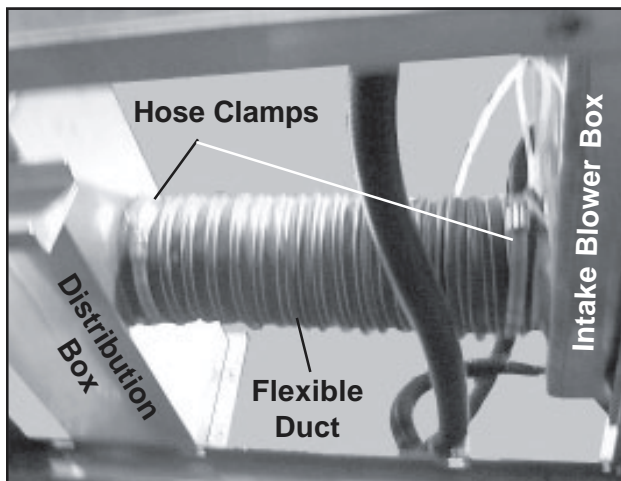

Figure 91. Intake Flexible Duct
7. Loosen the hose clamp on the distribution box end of the intake flexible duct (Figure 91), and disconnect the duct from the distribution box.